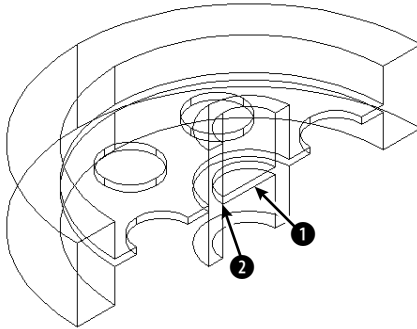

Figure 24-23: The solid after slicing and deleting one-half of it.
4. As mentioned earlier, the slicing reveals an error—the disk cuts through the central tube, as shown in Figure 24-23. To fix the error now, choose `Zoom Realtime` from the `Standard` toolbar and zoom in so the model takes up the entire screen.
5. Start the `CIRCLE` command. At the `Specify center point for circle or [3P/2P/Ttr (tan tan radius)]:` prompt, pick the midpoint at 1 in Figure 24-23. At the `Specify radius of circle or [Diameter]:` prompt, pick the endpoint at 2.